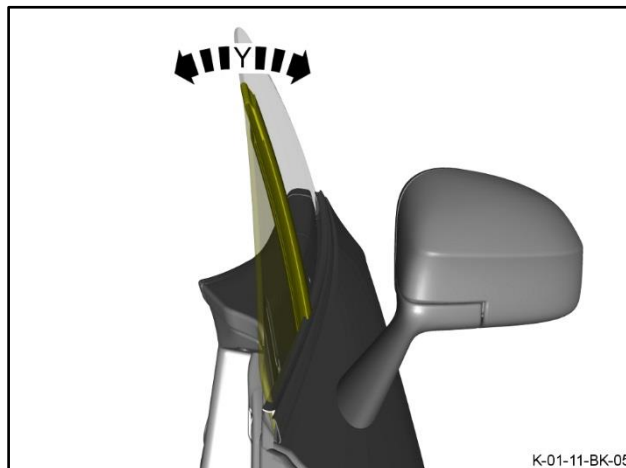

Figure 40
29. If the division bar and quarter glass assembly is not correctly aligned, adjust it on its Y axis (refer to Figure 40).